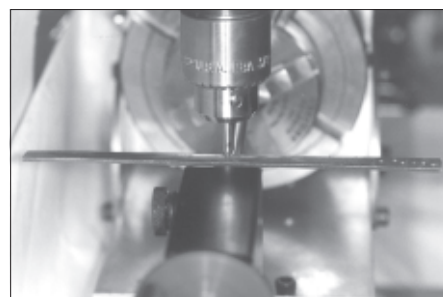

Figure 31. When the brass strip became level the x-y table was locked.
I wanted to permanently affix the sleeve by screwing it to the brake line. I held the brake line in a three-jaw chuck mounted on a rotary table, which in turn was mounted on a right angle plate. The end with the sleeve was supported by an adjustable tailstock that along with the right angle plate was attached to a milling machine table. A center was placed in the tailstock spindle and it was turned into the brake line. A center was held in the mill head drill chuck and brought to the middle of the sleeve using the x-y table, Figure 28. A flat piece of brass approximately 6 inches long was used as a guide to determine the center of the sleeve along the front to back (Y) axis, Figures 29 and 30. When the strip became level, the chuck was centered on the sleeve, Figure 31. The x-y table was then locked in position.